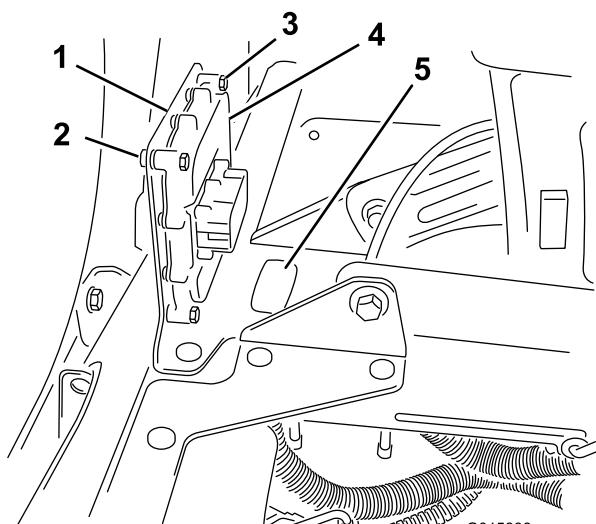

Figure 15
- Install the mounting bracket to the machine seat frame, between and behind the seats with existing hardware (Figure 15).